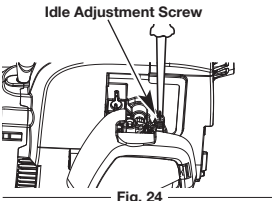

Fig. 24
The idle speed of the engine is adjustable. An idle adjustment screw is between the air filter cover and the engine starter housing (Fig. 24).
2. Release the throttle trigger and let the engine idle. If the engine stops, insert a small Phillips screwdriver into the idle adjustment screw (Fig. 24). Turn the idle speed screw **clockwise** 1/8 of a turn at a time (as needed) until the engine idles smoothly.